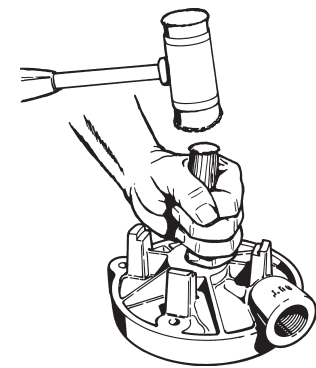

Figure 4-12
- To remove the seat (#125). Refer to Figure 4-12. Place the motor bracket face down on a clean flat surface. Look into the opening in the center of the motor bracket, and you will see a portion of the seat. Insert the 1" dowel and, very gently, tap the seat until it drops out. Care must be taken